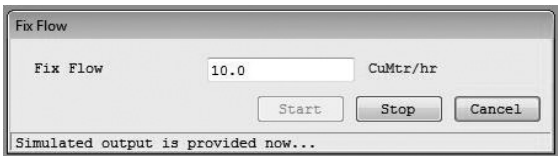

Fig. 3-59
- (4) By clicking "OK" button, the simulated flow rate value you set will be output. While the simulated flow rate value is output, a message "Simulated output is provided now." is displayed at the bottom of the window as shown in Fig. 3-59.